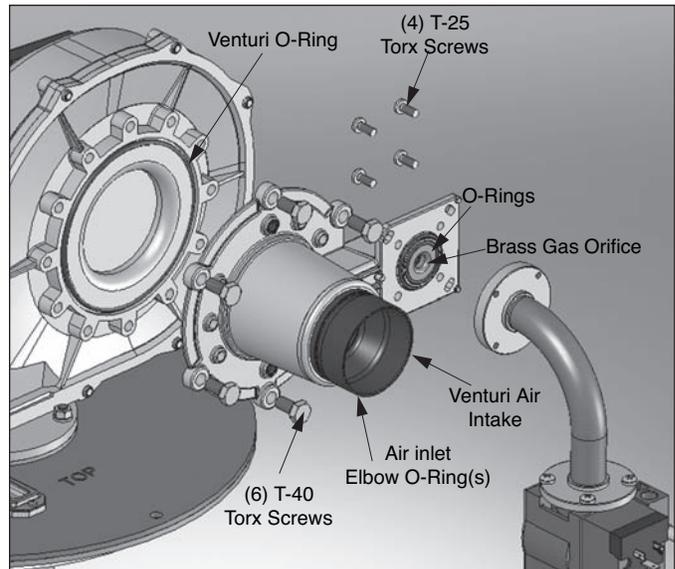

Fig. 2: Venturi/Gas Orifice Assembly
8. Remove the six T-40 Torx screws securing the venturi to the blower. See Fig. 2.